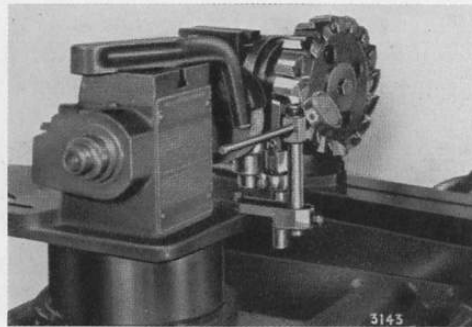

Fig. 78
6. Set edge of tooth even with centreing gauge located on wheel head and lock clearance setting dial on headstock spindle in the zero (0) position.
12. Proceed as described under items 9 to 18 for grinding the face of teeth.
**Grinding Periphery of the Teeth, Figure 78.**
1. Swivel table to 11° since teeth on this particular cutter have 11° angle on periphery. (On cutters having the periphery teeth parallel with axis, the table is set on zero (0).)
4. Swivel headstock in horizontal plane and set on zero (0), also in vertical plane to zero (0).